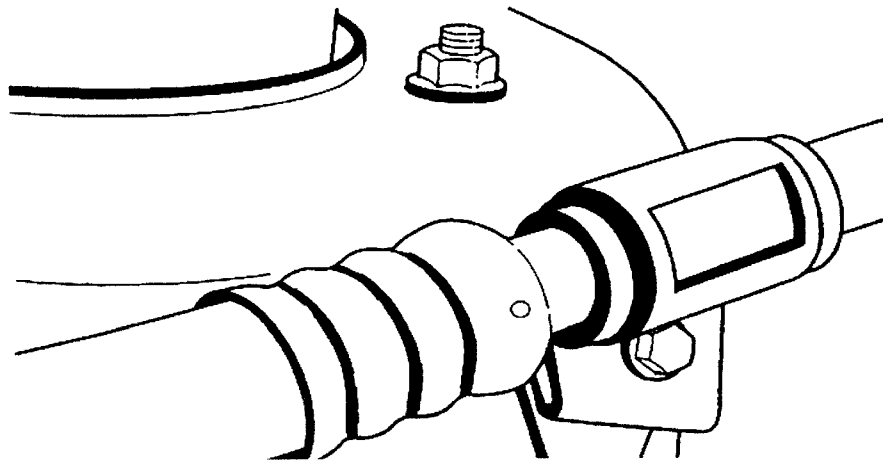

Fig. 3
10. Remove clamp holding air conditioning hose on inside of right strut tower and position hose away from strut tower (Fig. 3).